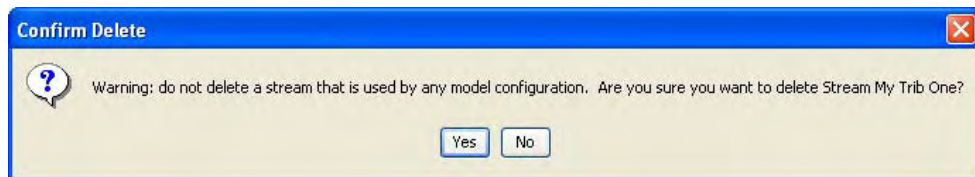

Figure 5.15 Confirmation Message when Deleting a Stream Element
3. When the confirmation message (shown below in Figure 5.15) appears, select either **Yes** or **No**.